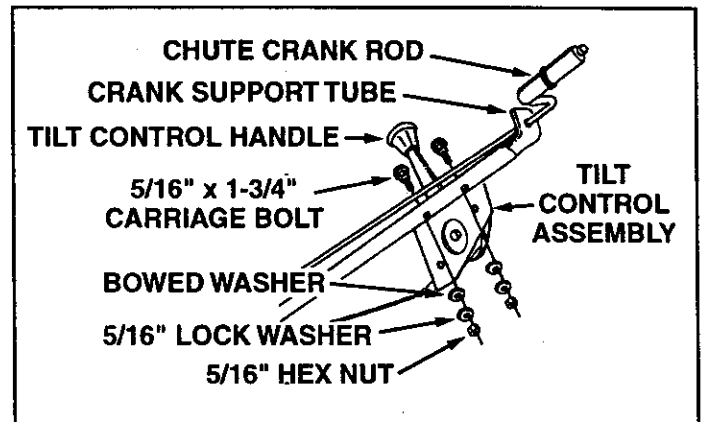

FIGURE 19 LEFT SIDE VIEW
- Attach the chute tilt control assembly to the top side of the crank support tube using two 5/16" x 1-3/4" carriage bolts, bowed washers, 5/16" lock washers and 5/16" hex nuts. See figure 19.